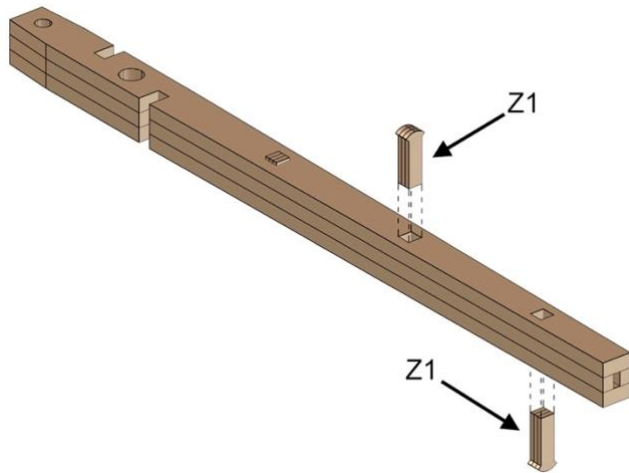

Fig. 55
- Align parts exactly as shown in *Fig. 55*.
- Insert two Z1 pieces, making sure the part is exactly as shown in *Fig. 55*.